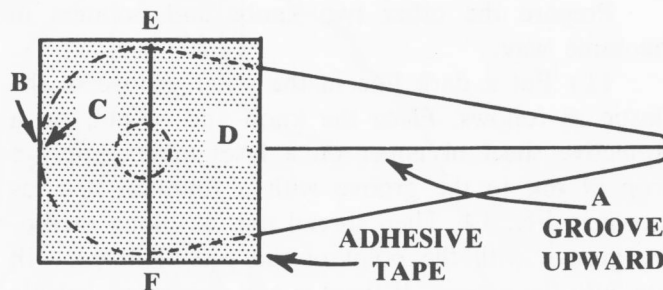

Fig. 12
Cut off about 1" (or slightly more) of the two-sided gummed tape used for the cell boxes in step 4. Peel off the protective covering on one side, and place the adhesive side against the wide end of the pointer, as shown in Fig. 12. The edge of the tape at B should just barely overlap the round end of the pointer (C). An excessive overlap may leave too little for proper coverage at the opposite end (D). Be sure that there is also some overlap at points E and F.